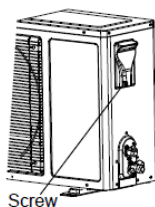

Fig. 14
- Unscrew and dismantle the electronic device lid (Fig. 14).